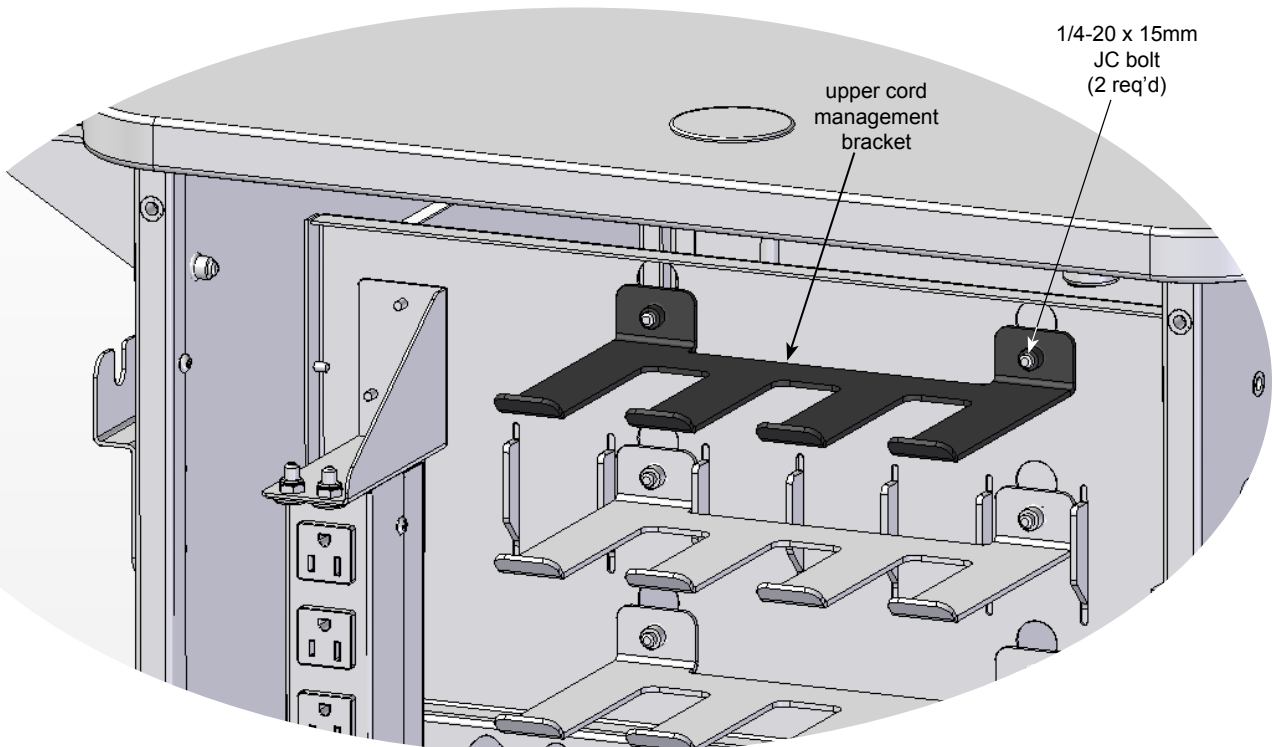

Figure 1
1. From the device-side of the cart, loosen the (2) JC bolts attaching the upper cord management bracket. **Figure 1.**